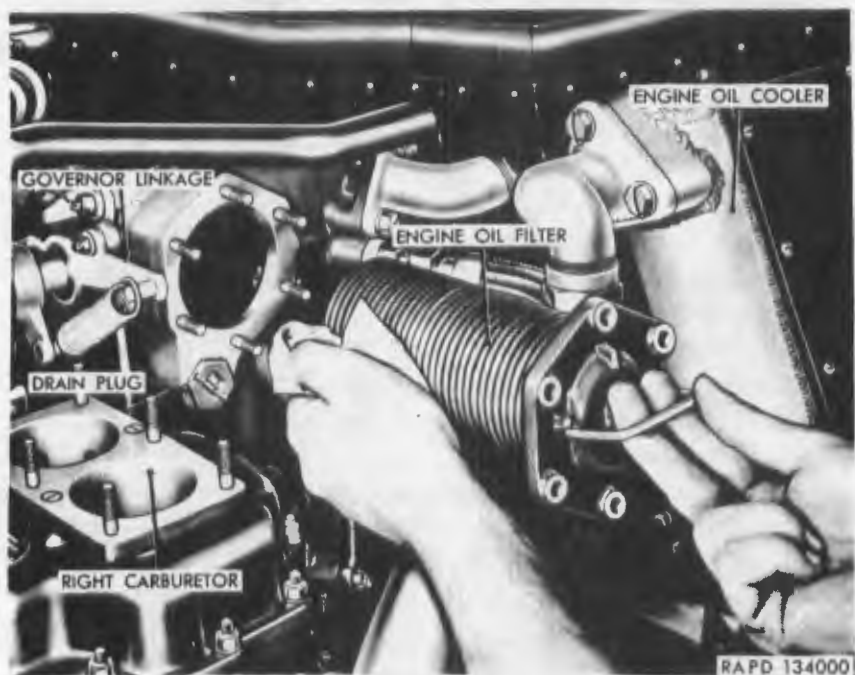

Figure 105. Removing engine oil filter.
a. *Removal* (fig. 105). Open engine compartment grille doors above engine oil cooler, cut locking wire and unscrew magnetic drain plug in bottom of filter chamber and drain oil. Install magnetic plug after oil has drained. Remove the six jamnuts, hex nuts, and flat washers securing filter and pull filter assembly straight out using the handle provided. Be careful to keep filter centered with hole in accessory case. Remove filter gasket and discard.